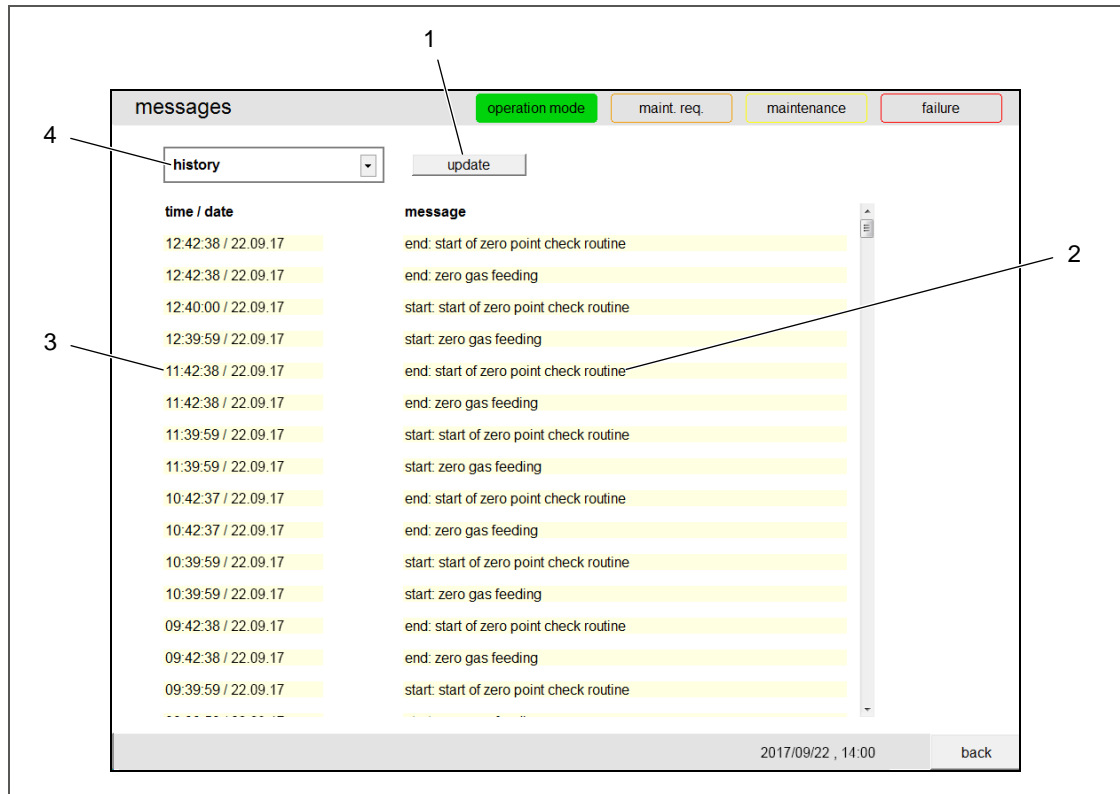

Fig. 31: Menu “messages” – history
In the overview all previous messages are listed. Therefor time and date (3, Fig. 31) as well as the characterisation of the event (2) with determination of the status characterisation “start”/“end” are displayed.